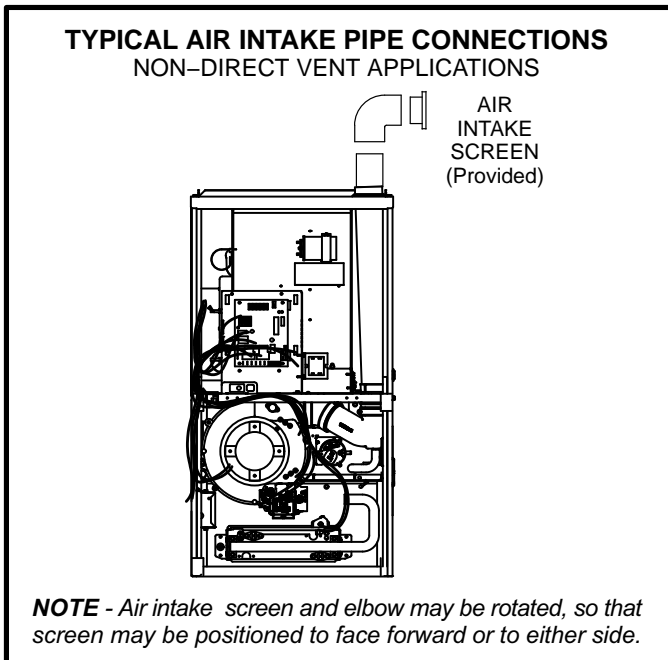

FIGURE 28
- 1 - Use field-provided materials and the factory-provided air intake screen to route the intake piping as shown in figure 28. Maintain a minimum clearance of 3" (76mm) around the air intake opening. The air intake opening (with the protective screen) should always be directed forward, or sideways.